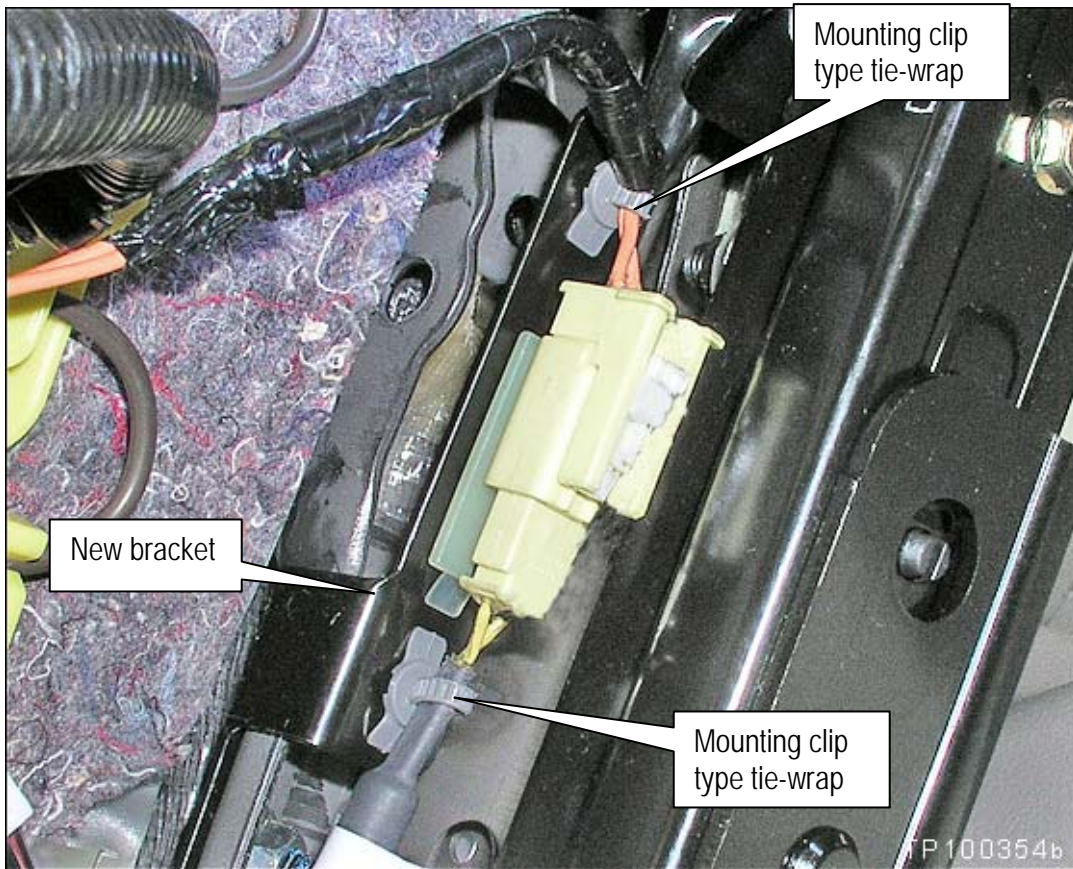

Figure 7a
9. Mount the new SAB connector on the new bracket as shown in Figure 7a.